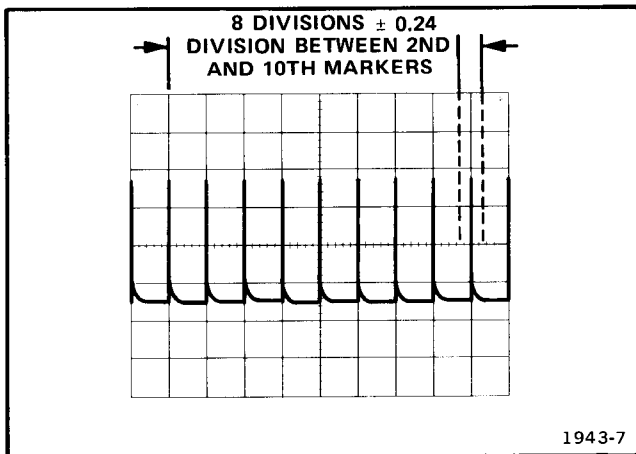

Fig. 5-7. SEC/DIV accuracy.
- c. CHECK—A SEC/DIV accuracy within 3% over center 8 divisions displayed (see Fig. 5-7) using equipment settings given in Table 5-6.
- b. CHECK—B SEC/DIV accuracy within 3% over center 8 divisions displayed (see Fig. 5-7) using equipment settings given in Table 5-7.